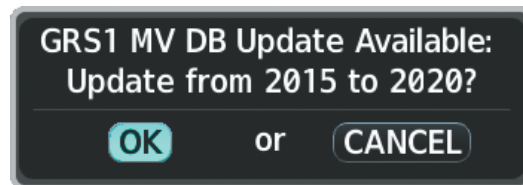
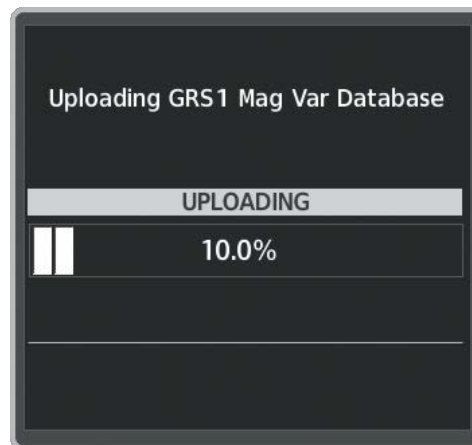

Figure B-13 GRS1 Magnetic Field Variation Database Update Prompt
Figure B-14 Uploading Database to GRS1
- 1) With 'OK' highlighted, as seen in Figure B-13, press the **ENT** Key on the MFD. A progress monitor is displayed as shown in Figure B-14.